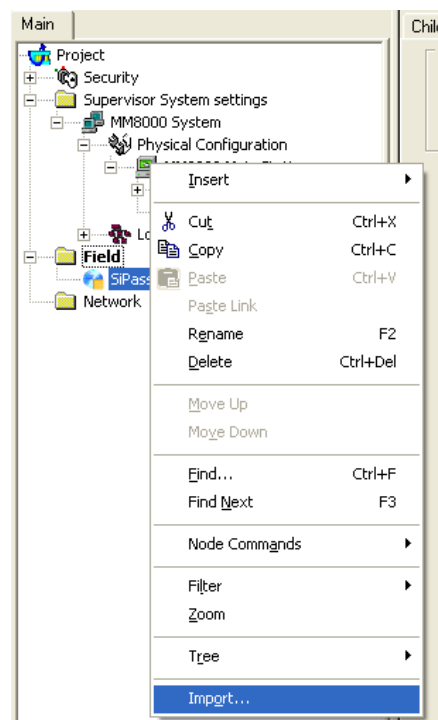

Fig. 9 Start SiPass off-line import
2. Select **Tools**→**Import** or right-click the SiPass node and select Import (Fig. 9).